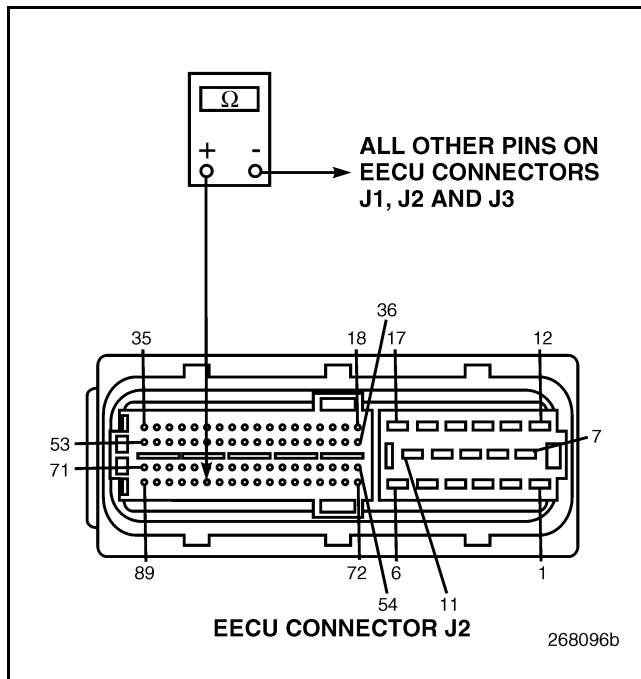

Figure 810
4. Check for continuity between EECU harness connector J2 pin 84 and all other pins on EECU connectors J1, J2 and J3 (see Figure 810).